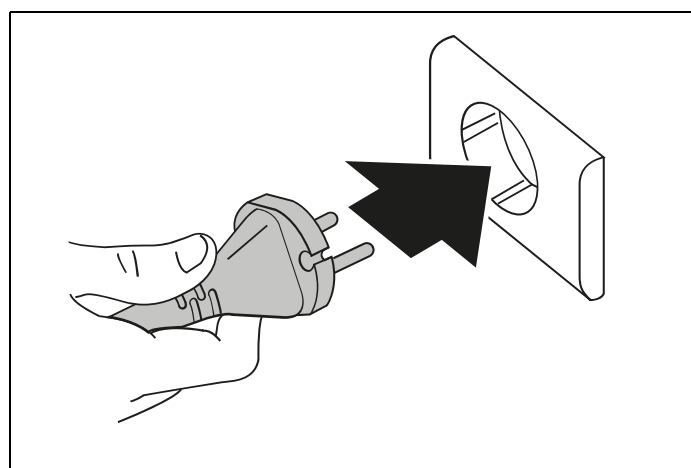
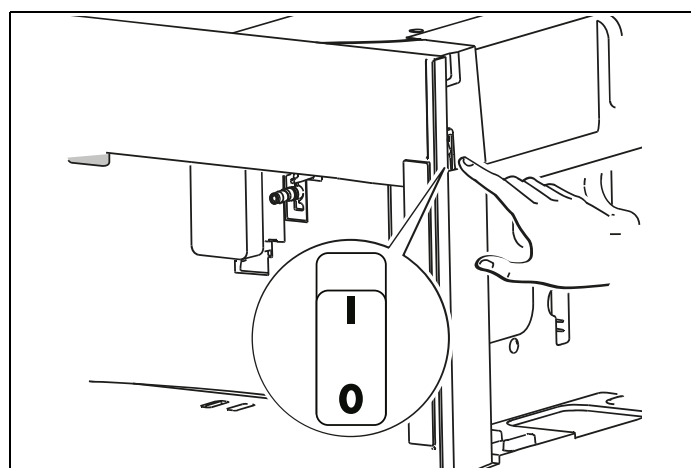

Fig. 15
Fig. 16
- 1) Connect the appliance to the mains electricity supply (Fig. 15) and make sure the main switch (**A19**) on the side of the appliance is pressed down (Fig. 16) ;
Before turning the appliance on, make sure the main switch (**A23**) is pressed (Fig. 16). Each time the appliance is turned on, it performs an automatic preheat and rinse cycle which cannot be interrupted. The appliance is ready for use only after completion of this cycle.
- 2) Release the main switch **(A23)** situated on the side of the appliance (Fig. 16).